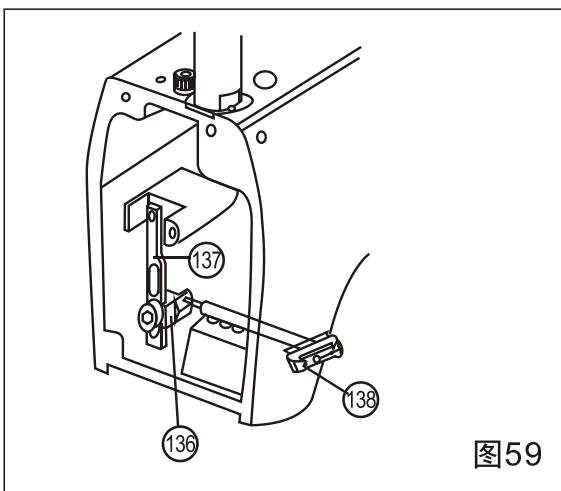

图 59
Thread tension device may be adjusted through height adjustment of the eccentric part (No. 136 in Fig. 59) inside the arm. The eccentric part is on the presser foot lifting hook (No. 137 in Fig. 59). Or adjusted through moving the whole thread tension device axially after the clamp screw (No. 138 in Fig. 59) has been loosened.
When the machine is to be threaded, make sure that when elbow connector is moving, thread tension device can open before presser foot is lifted, as indicated in Fig. 59.
Adjust the height and verticality of driving lever clamber (No. 138 in Fig. 59). The height shall make the driving lever 1.5mm away from the end of upper hook needle. Verticality is actualized through adjustment to the shaft which is mounted with the driving lever. Driving lever is in parallel with the longitudinal shaft of the machine. This adjustment may be done by clamp screw (No. 138 in Fig. 59), as indicated in Fig. 59.
(1) Turn the annular screw cap (No. 142 in Fig. 59) to adjust the elongation of spring. The spring elongation shall be adjusted to the most.